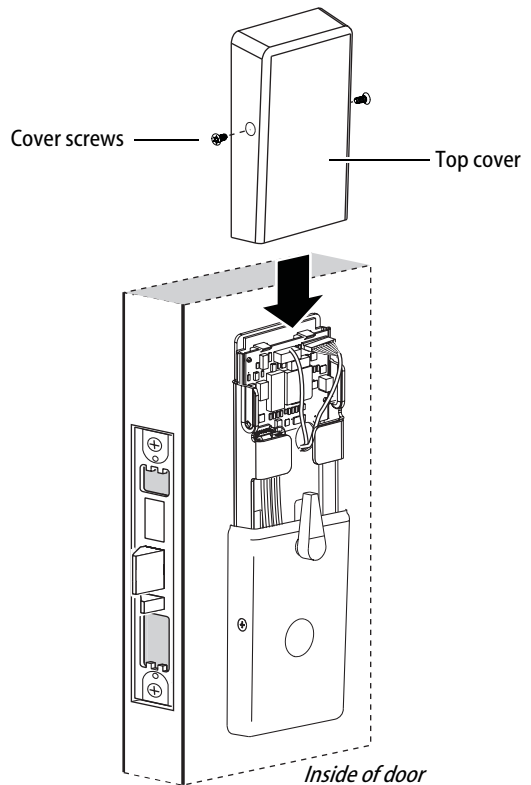

Figure 18 Installing the top cover
- 2 Use two cover screws to secure the cover to the side of the fire plate, as shown in Figure 18.